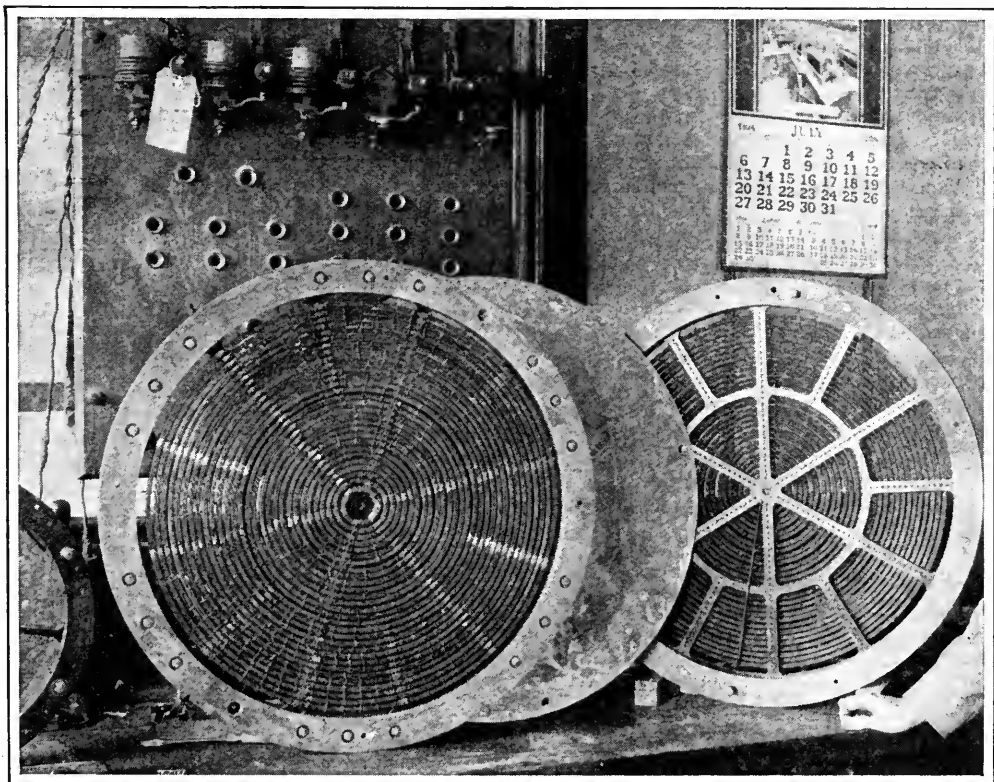
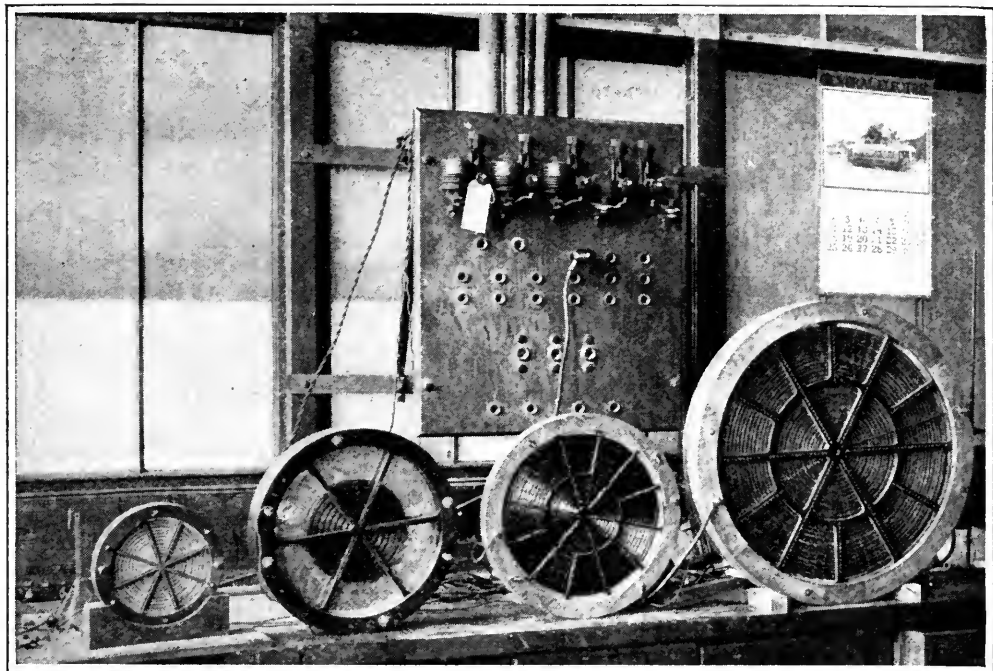

FIG. 1
FIG. 2
**T**HE induction loud speaker consists of two flat circular coils mounted coaxially on either side of a circular sheet of metal such as aluminum. Fig. 1
shows a picture of the parts, and Fig. 2 several models of the assembled instrument. Each coil is made up of sections with annular air spaces between them. These sections are secured to the wooden framework by means of wires which pass around them and through holes in the spider. The sections are connected in series and the terminals of each coil are brought out to two binding posts fixed to the circular frame. The circular diaphragm of aluminum has the same diameter as that of the circular framework. It is lightly held between the two frames by small pieces of felt placed between the diaphragm and each frame at intervals of about 3 inches around its circumference. This method of support leaves the diaphragm quite free to vibrate through such amplitudes as are required of it and allows it to expand when it gets hot. It also allows a certain amount of convection of air to pass upward between the coils and diaphragm and out at the top between the frames and diaphragm. The two coils shown in Fig. 1 are 25 inches in diameter, have an axial width of about  $\frac{1}{2}$  inch and contain about 75 pounds of 45 mil wire. The frames and diaphragm are 30 inches in diameter. When mounted the coils are about  $\frac{1}{4}$  inch from the aluminum diaphragm, whose thickness is 10 mils.